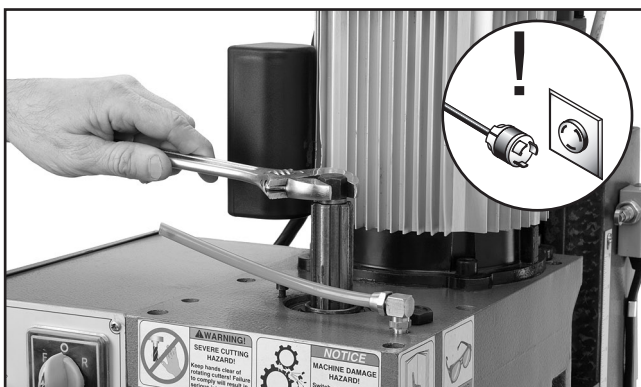

Figure 14. Unseating the arbor/cutter.
4. Lightly strike the drawbar with a dead blow hammer (**Figure 14**) or a piece of wood to release the tooling from the spindle.